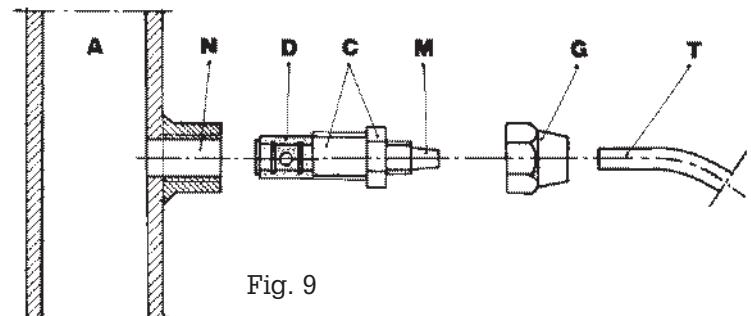

Fig. 9
- g. - Select the most appropriate injection point on a pipe of the plant to be treated and there fit a 3/8" female steel gas thread connector (similar to BSPm). This connector is not supplied with the pump. Screw the injection valve to the gas connector, inserting a gasket as shown in Fig. 9. Then connect the discharge hose to the conical connector on the injection valve and fix it with the supplied tube nut G. The injection valve also acts as no return valve by means of a cylinder sleeve (elastomer, standard supplied in Viton).
DIAGRAM Fig. 9